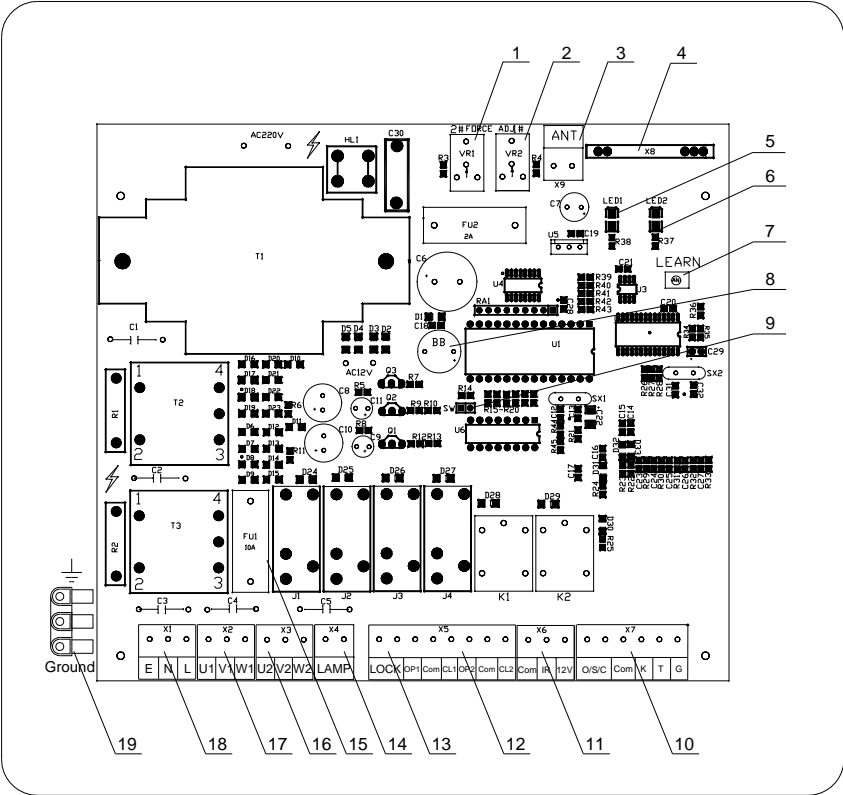

Fig.18 Control board diagram
- Press the 'LEARN' button on the control board (see Fig.18 No.7), then the green indicator 'LED2' (see Fig. 18 No.6) will be on.
- Slowly rotating the reverse sensitivity sensor 'FORCE ADJ' (see Fig.18 No.1 and No.2) with a screwdriver, 1# sensor can be used to adjust primary operator, 2# sensor can be used to adjust secondary operator.
- Place the jumper cap on both pins of terminal 'SW' see Fig.18, No.9, the gates will stay open for  $30 \pm 3$  seconds before automatically closing.